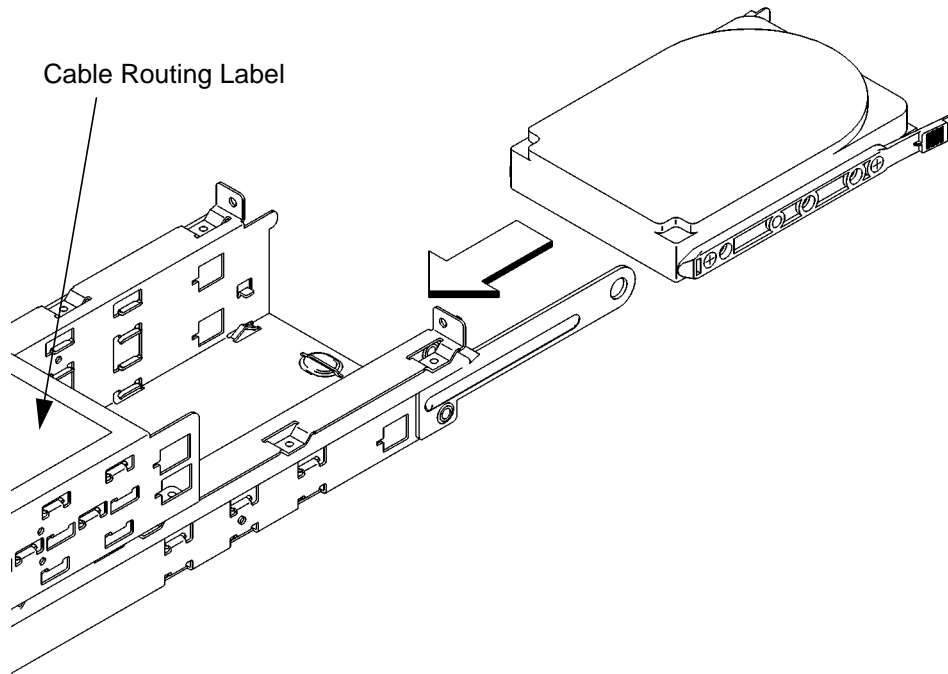

Figure 32 **Installing a Hard Disk Drive**
- 4 From the rear of the storage tray, line up the disk slides on the hard disk drive with the position 3 or position 4 slots in the storage tray chassis and slide it into place, as shown in Figure 32.